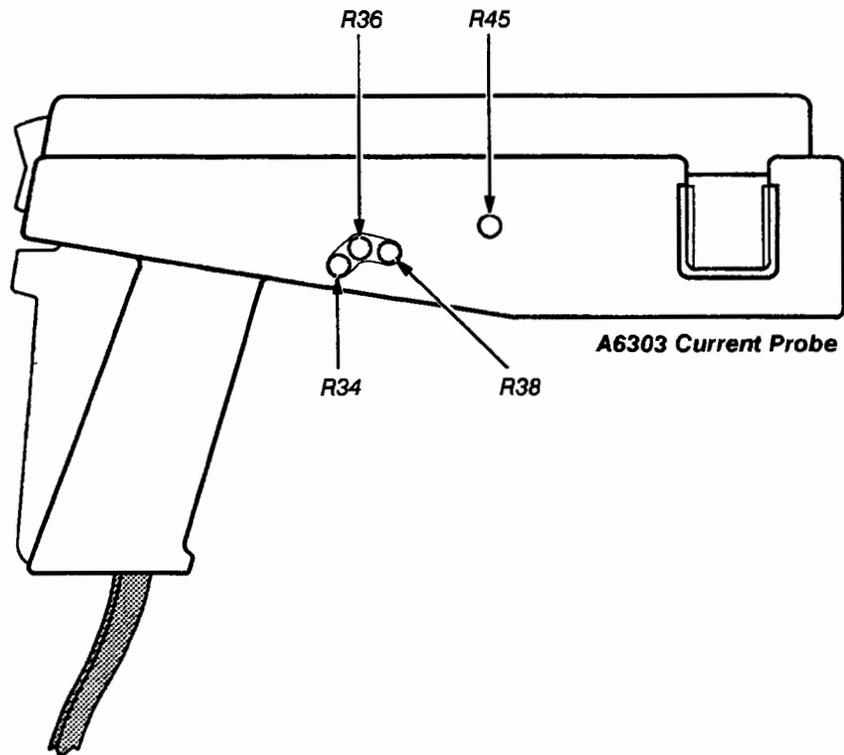

Figure 1 – Location of Adjustments on the A6303 Current Probe
- Step 8: Remove the current probe plug that covers R45. See Figure 1.
- If the recorded value (X) is negative, adjust R45 to bring the trace down (Xmilli-units/2) mA.
- If the recorded value (X) is positive, adjust R45 to bring the trace up (Xmilli-units/2) mA.
- Step 26: Remove the A6303 access plugs for adjustments R34, R36, and R38. Refer to Figure 1.